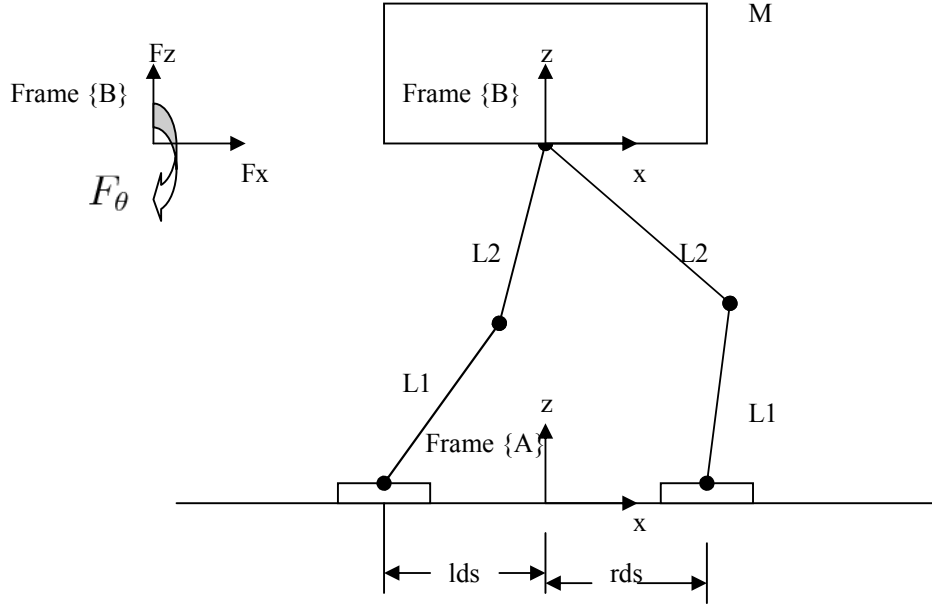

Figure 2: Biped in double support.
Figure 2 shows a 2D seven-link robot with a trunk and two legs. Each leg consists of foot, shank and thigh connected by ankle and knee joints. Both legs are connected to the trunk by hip joints. **We only consider double stance** in which both legs are on the ground and the robot describes a parallel chain mechanism. The segment lengths are $l_1 = l_2 = 0.5m$. The legs are very light. Their mass can be ignored. The trunk has a mass of $m = 80kg$ that is concentrated at the hips, and a moment of inertia
- (a) (2pts) Given the initial state of the robot body, what are the initial ankle and knee joint angles $\theta_{la}, \theta_{lk}, \theta_{ra}, \theta_{rk}$, as defined in Fig. 4. in the paper? (The inverse kinematics should give you 4 solutions, choose the one matching Figure 2.)